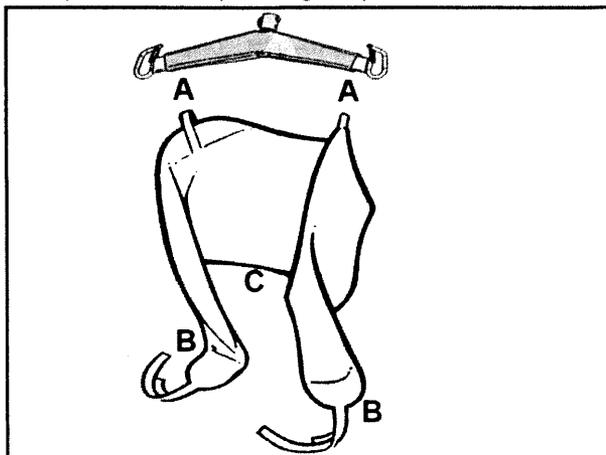
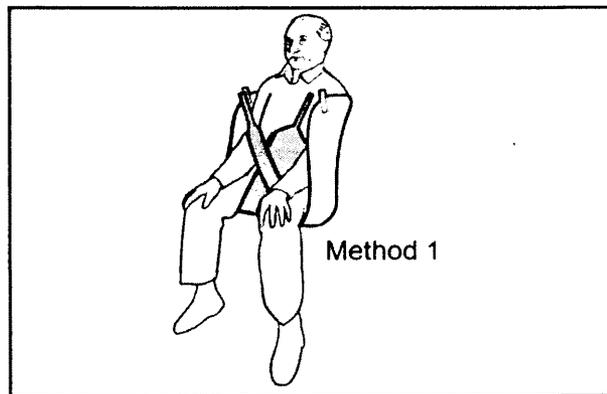
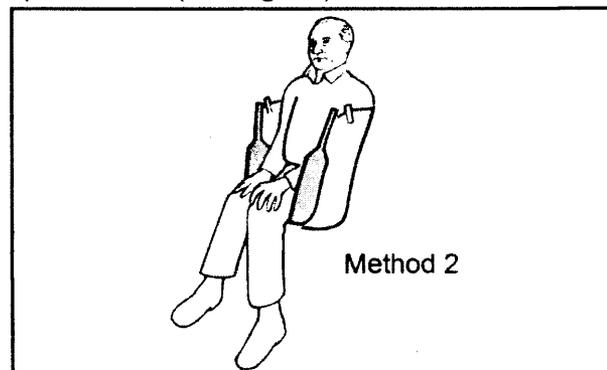
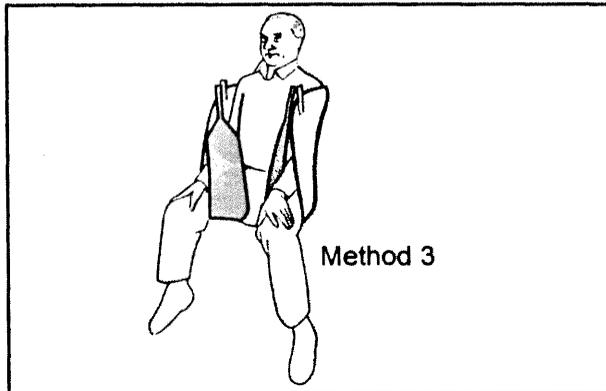

Fig. 12
Fig. 13
Fig. 14
Fig. 15
Once the loop sling has been fitted around the patient, it can be configured in three ways. With each of the three methods described below, it is necessary to first connect each shoulder loop (points A) of the sling to the same side hook on the spreader bar (see Fig. 12).
**Method 1:** With the sling correctly positioned around the patient, slide the left-hand leg section of the sling under the patient's left thigh and the right-hand leg section under the patient's right thigh. Attach each leg loop (see points B in Fig. 12) of the sling to the outer hook on the opposite side of the spreader bar (see Fig. 13).
**Method 2:** With the sling correctly positioned around the patient, pass each leg section of the sling under both of the patient's thighs, then attach each leg loop (see points B in Fig. 12) to the outer hook on the opposite side of the spreader bar (see Fig. 14).
**Method 3:** With the sling correctly positioned around the patient, slide the left-hand leg section of the sling under the patient's left thigh and the right-hand leg section under the patient's right thigh, then attach each leg loop (see points B in Fig. 12) to the hook that is on the same side of the spreader bar (see Fig. 15).
If the patient can sit easily, the sling can be positioned the same way as if the patient was seated in a chair: i.e. by easing the patient forward, (if necessary) slide the sling down the patient's back until seam C (see Fig. 12) reaches the base of the spine. Take attachment points B and pass the leg sections of the sling underneath the patient's thighs, as appropriate to one of the three methods for lifting discussed above. Ensure that the sling's sections are not twisted underneath the patient.